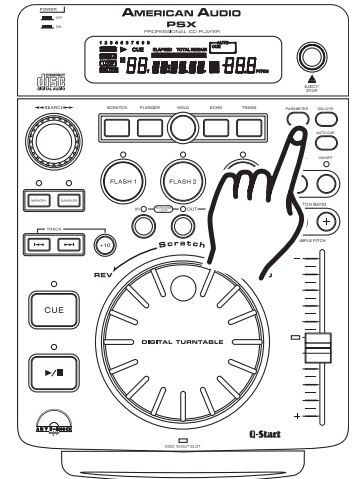

Figure 49
Most the effects have adjustable parameters. The parameters change the way the effect will react. To enter the parameters menu for any of the effects, press the *PARAMETER BUTTON* (28) as in figure 49. When the parameter mode is selected the time display in the *LCD* (1) will change to indicate the parameters. Some effects have more adjustable parameter than others. Pressing the *PARAMETER BUTTON* (28) more than once will advance you to the next parameter adjustment, if there are no other adjustable parameters pressing the *PARAMETER BUTTON* (28) will exit the parameters menu and return the *LCD* (1) to the time display.